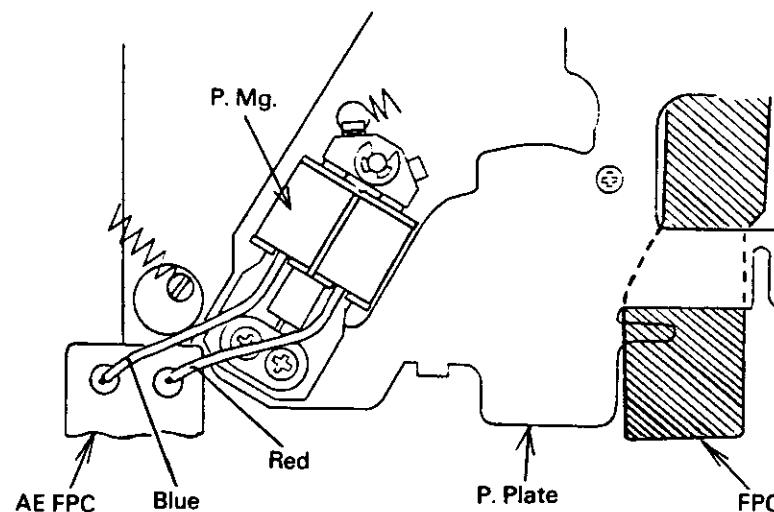

Fig. 7
- (6) Detach the soldering of two Lead wires (Blue, Red) from the P Mg. shown in Fig. 7.
- (1) Set the P lever plate ass'y (P. 28 No. 41) with two Screws (P. 28 No. 43, 44).
- (2) Set the FPC as shown in Fig. 7.
- (4) Solder two Lead wires (Red, Blue) from the P Mg. shown in Fig. 7.